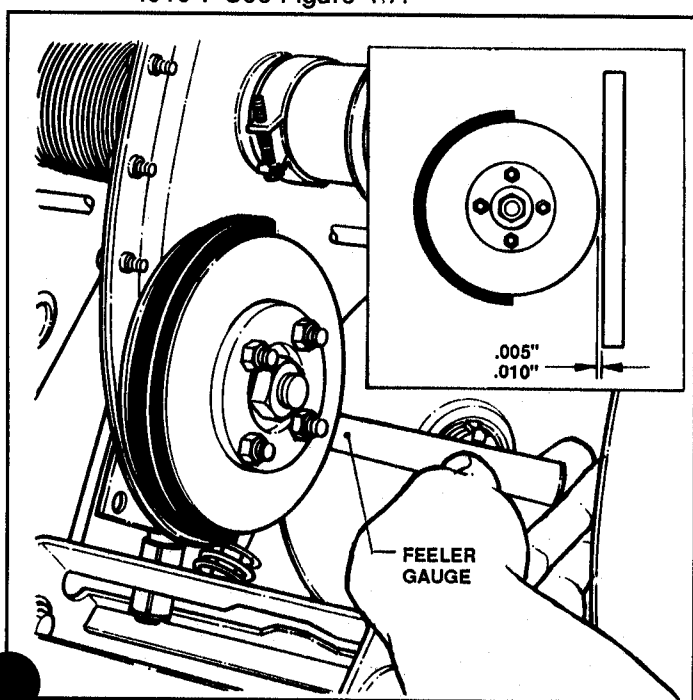

FIGURE 4.7
- F. Adjust clutch link guide until the metal radius of the gauge clears the drive disc by .005"-.010". See Figure 4.7.